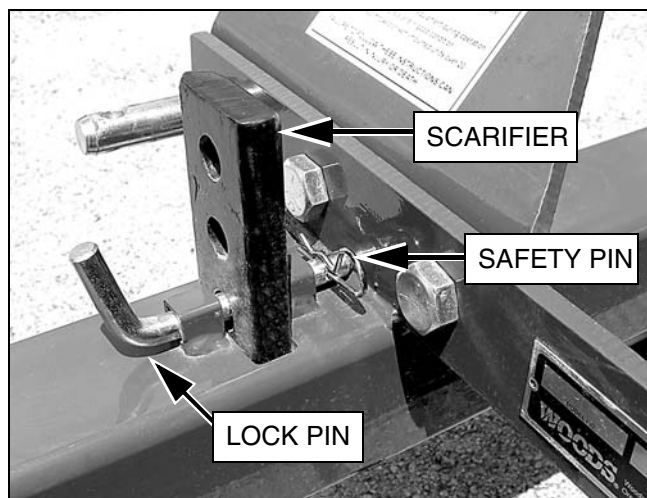

Figure 6. Scarifier Removal or Adjustment
3. Remove safety pin and lock pin. Adjust scarifier to desired position, Figure 6.